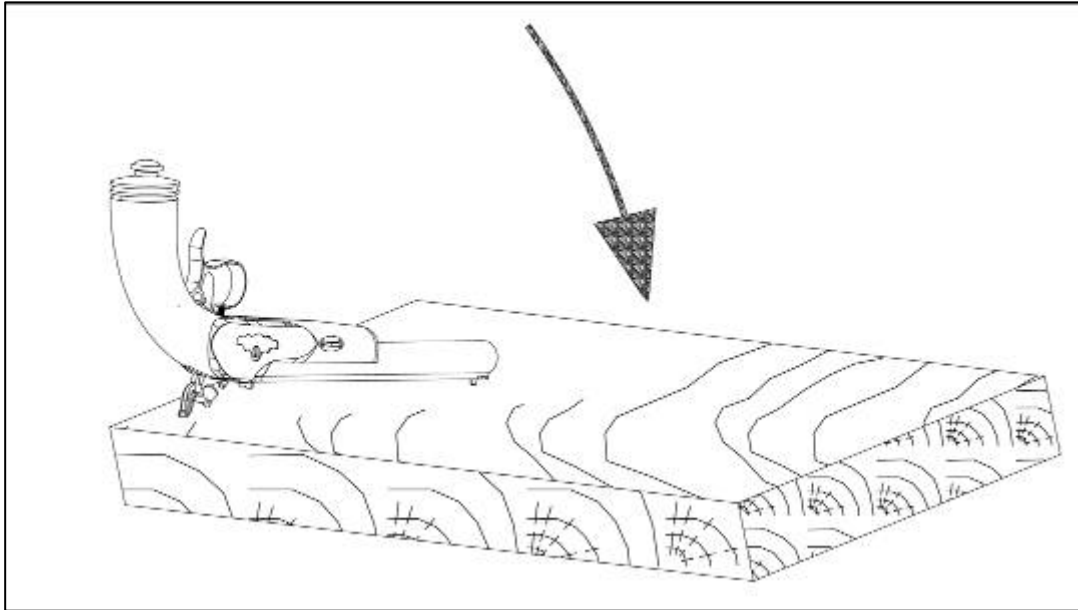

Fig 5
- c. To prevent damage to the stock, turn the rifle up side down and softly hit on a smooth surface with the muzzle of the barrel (see Fig.5). In this way you can easily disassemble the barrel from the stock.